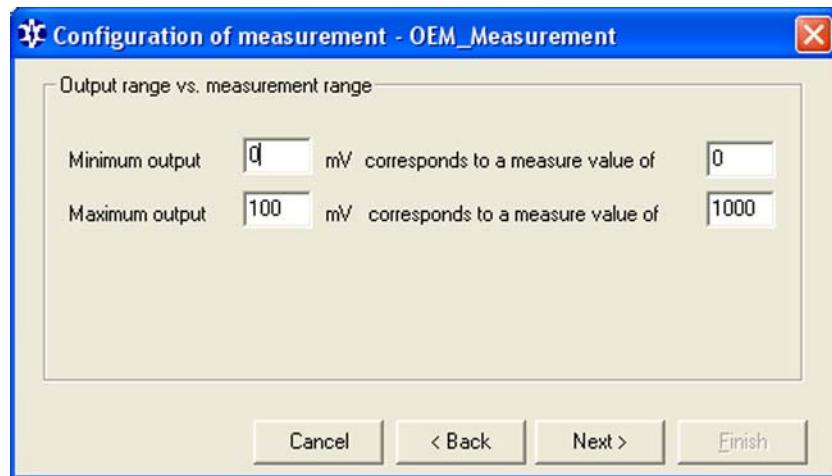

Figure 49 Converting Parameter Setup
4. Click **Next** to open the conversion parameter setup window presented in Figure 49 on page 122.